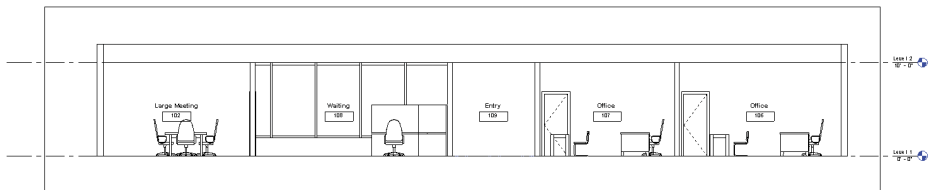

FIGURE 8.20 Room tags shown in section
- To move a tag that may be overlapping element geometry, click the Modify button in the ribbon (or press the Esc key), select a tag, and drag it using the grip that appears near the selected tag (Figure 8.20). You can also grab and drag a tag directly without selecting it first.